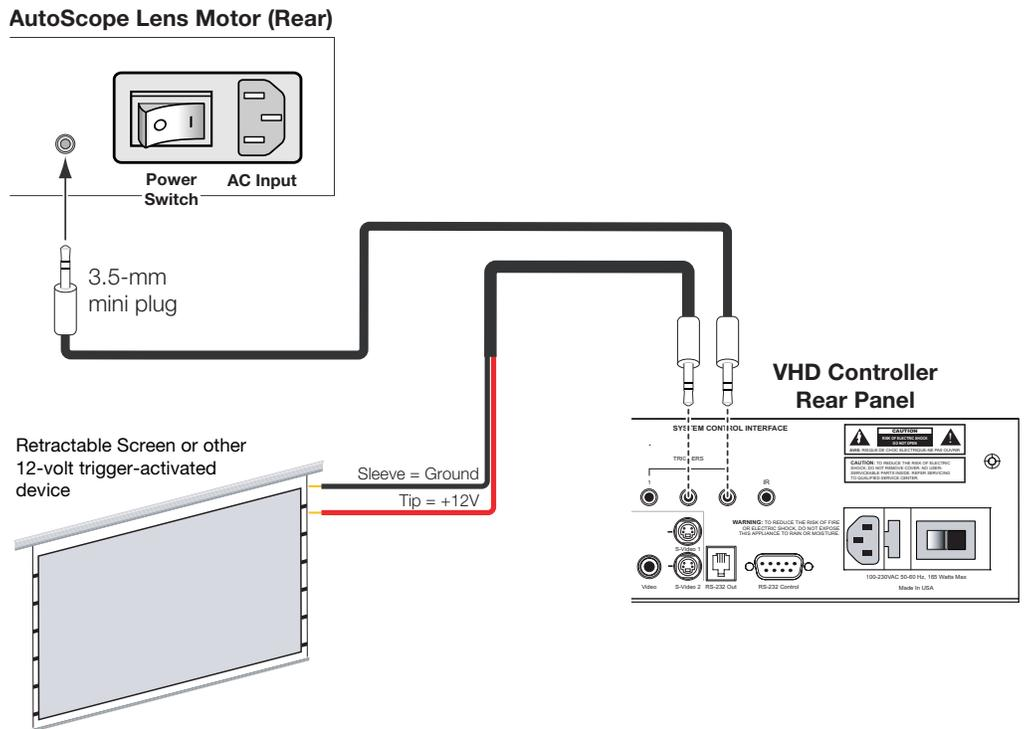

Figure 3-16. 12-volt Trigger Output Connections (from VHD Controller)
VHD Controller: If your Vision 85 is equipped with a CineWide with AutoScope system, connect the AutoScope lens motor to a 12-volt trigger output on the VHD Controller; see Figure 3-16.
3. If this is an AutoScope-equipped projector, turn on the main power switch at the rear of the AutoScope lens motor. The lens motor power switch is located next to the AC input (see Figure 3-16).